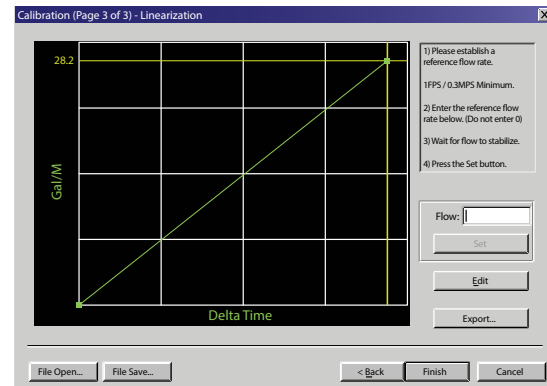

Figure 58: Calibration points editor
3. On the pop-up screen, click **Next** twice to get to *Page 3 of 3*. See *Figure 58*.
9. The display will return to *Page 3 of 3*. Click **Finish**. See *Figure 58*.